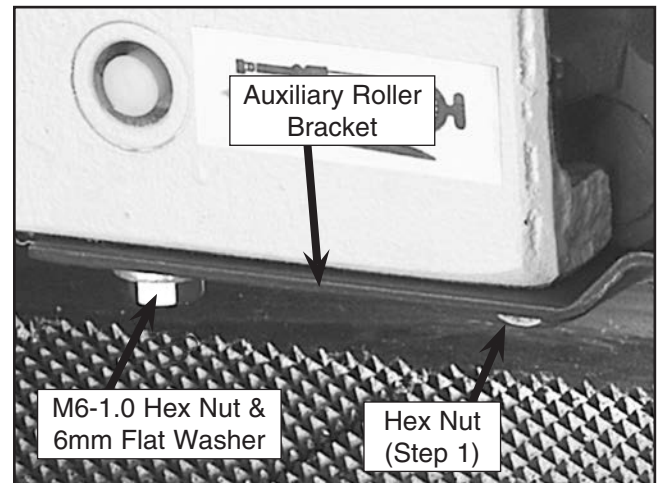

Figure 28. Auxiliary roller bracket.
3. Slide the 4 auxiliary roller brackets over the setscrews and secure them with the four M6-1.0 hex nuts and 6mm flat washers, as well as the 4 hex nuts removed in **step 1** (**Figure 28**).